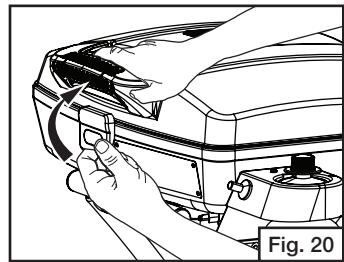

Fig. 20
- To open lid, unlatch handle cover and lift up. (Fig. 20)